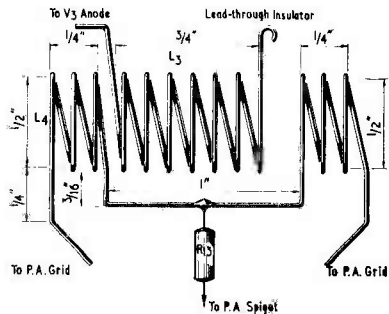

Fig. 2. Dimensions of the tripler anode and P.A. grid coils. The wire used is 18 s.w.g. tinned copper
- L₃ 6 turns, 18 s.w.g. tinned copper, spaced $\frac{1}{4}$ in, self-supporting, $\frac{3}{8}$ in inside dia. Centre tapped. (See Fig. 2)
- L₄ 6 turns, 18 s.w.g. tinned copper, split winding, $\frac{1}{2}$ in inside dia. (See Fig. 2.)
The arrangement of the coils, L_3 and L_4 is given in Fig. 2. It should be noted that these details should be followed closely in order to obtain optimum drive conditions. One end of L_3 is connected to the anode tag of V_3 valveholder while the other is supported by a nylon lead-through insulator. As L_3 and L_4 are wound with non-insulated wire it is essential to ensure that they do not touch each other, since the positive voltage which would result at the P.A. grids would cause damage to the valve.